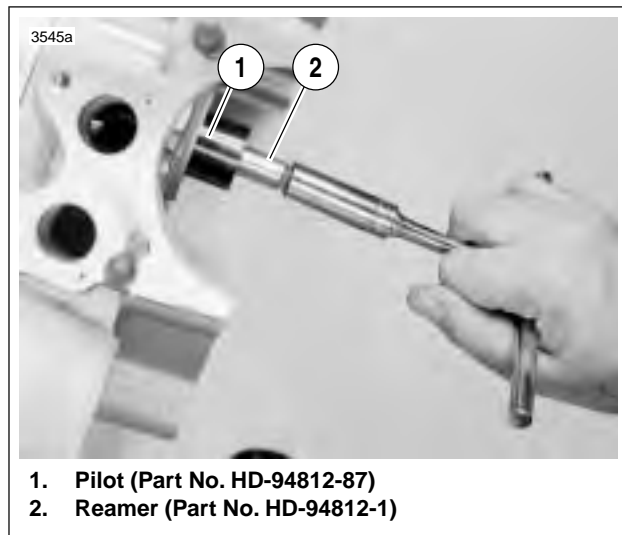

Figure 3-70. Line Reaming Pinion Shaft Bushing
2. See Figure 3-70. Install PINION SHAFT BUSHING REAMER PILOT (Part No. HD-94812-87) into right crankcase roller race. Insert PINION SHAFT BUSHING REAMER (Part No. HD-94812-1) through the pilot.